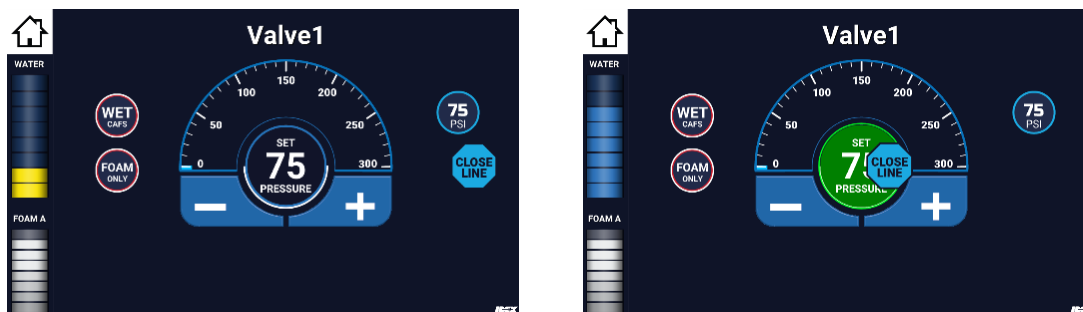

Figure 23. Closing A CAFS Discharge Sequence
- A. On SCC Home screen, touch desired active CAFS discharge. Displays Valve X screen (discharge valve control screen) displays. See left-hand side of Figure 23.
- B. On Valve X screen (discharge valve control screen), swipe CLOSE LINE bubble to target (center of widget). See Figure 23.